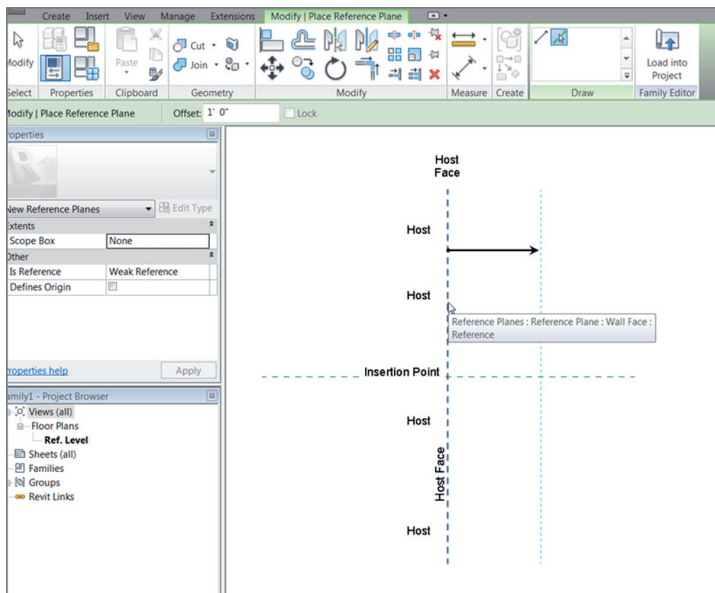

FIGURE BC2.2: Adding a second vertical reference plane
4. Hover your cursor over the center, vertical reference plane. When the blue reference line appears to the right of the vertical plane (as shown in Figure BC2.2), pick the center reference plane. You now have two vertical reference planes spaced 1'-0" (300 mm) apart.